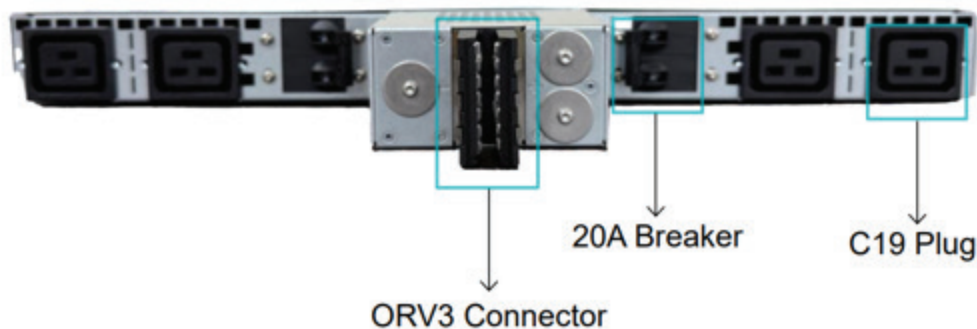

Figure 4.1 - 50 VDC input & AC Output Connectors
DC input is provided via a DC input connector located on the back of the Power shelf as shown in Figure 4.1. This connector is compatible with the vertical DC busbar set in a rack.
The Power shelf is designed to accommodate (4) 240 Vac C19 receptacles, two receptacles for one inverter output and two receptacles for the second inverter output. Each receptacle has a 20 A circuit breaker for overcurrent protection. See Figure 4.1.